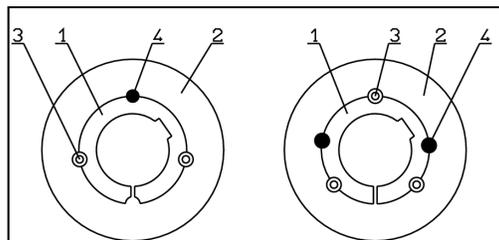

Figure 21
one or two set-screws completely, oil them and screw them into the removal holes (Figure 21 item 4). Pull on one or both set-screws, until the bushing (item 1) comes free of the hub (item 2).
7. Push the bushing (Figure 21 item 1) into the hub (item 2) and make the holes coincide as shown in Figure 21. Use witness marks as a guide. Oil set-screws lightly and screw in (item 3) - do not tighten yet.
8. Push the impeller with bushing (item 1) onto the shaft without loading it (using a hoist if the impeller weight requires it), align the axial position and tighten the set-screws (item 3) symmetrically. For HHA sizes 04 through 25,